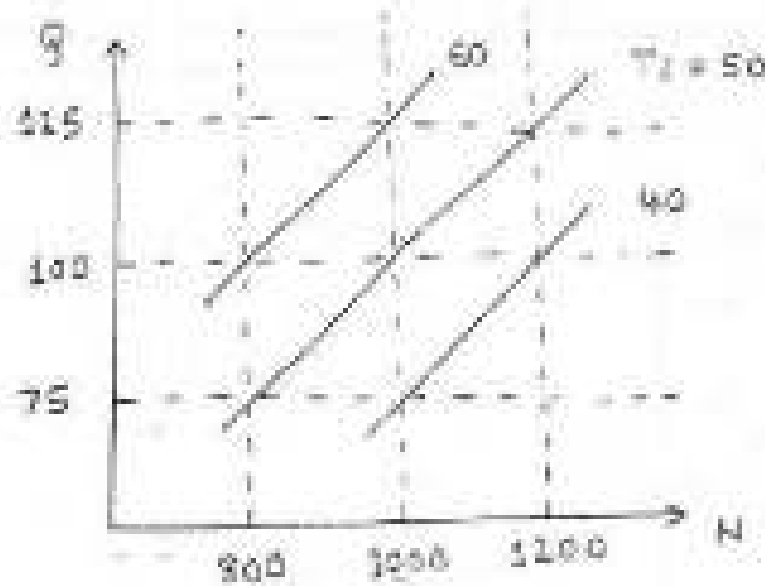

Figure 2-6
- Q) The characteristics curves of an engine are given by the family of curves shown in figure 2-6. Determine the linear approximation for the top set. [8]